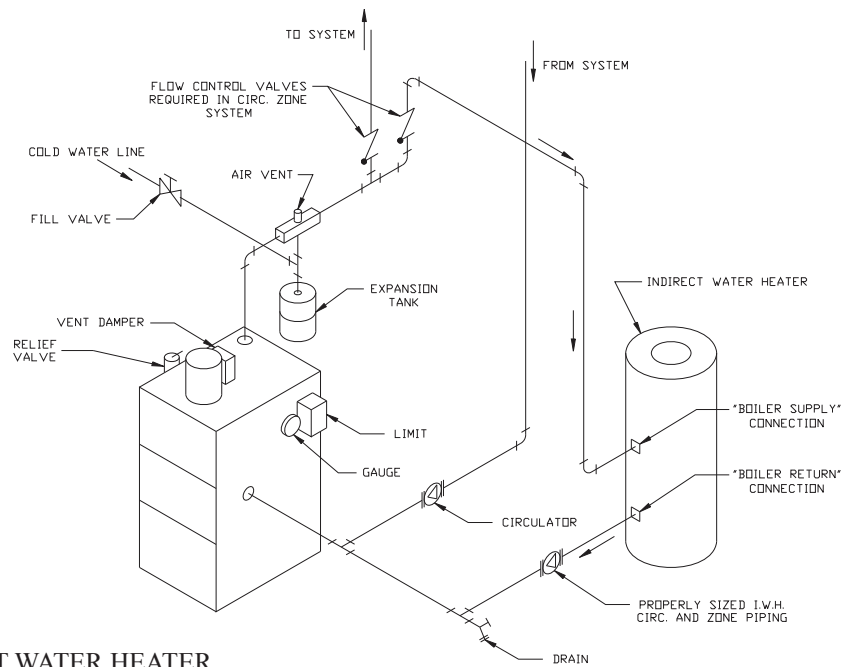

FIGURE 12: INDIRECT WATER HEATER
- 1) Indirect Water Heaters - Figure 12 shows typical indirect water heater piping. Boiler piping is the same as for any two-zone system. Figure 12 shows circulator zoning, which is usually preferred for indirect water heaters. Size the circulator and indirect water heater piping to obtain the boiler water flow through the indirect water heater called for by the indirect water heater manufacturer.